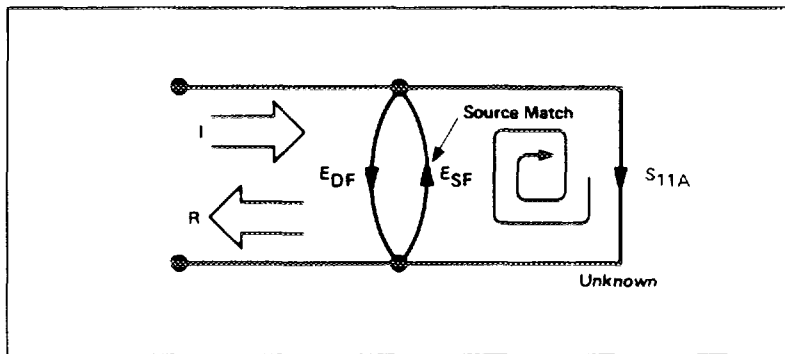

Figure 5-35. Source Match ESF
Since the measurement system test port is never exactly the characteristic impedance (50 ohms or 75 ohms), some of the reflected signal bounces off the test port, or other impedance transitions further down the line, and back to the unknown, adding to the original incident signal (I). This effect causes the magnitude and phase of the incident signal to vary as a function of S_{11A} and frequency. Leveling the source to produce constant (I) reduces this error, but since the source cannot be exactly leveled at the test device input, leveling cannot eliminate all power variations. This re-reflection effect and the resultant incident power variation are caused by the source match error, ESF (Figure 5-35).